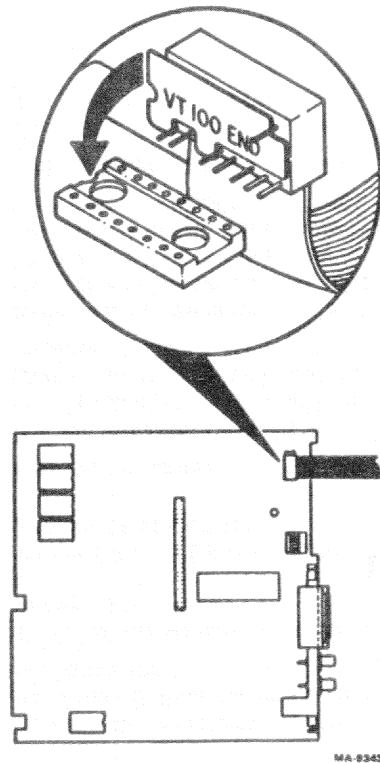

Figure 5-8 VT125 16-Pin Flat Cable on Terminal Controller
5. To install the graphics board, perform steps 1 through 5 in reverse (Figures 5-8 and 5-9).
The 16-pin cable connects to the bottom 16 connector sockets. Do not misalign the cable in the connector (Figure 5-8).